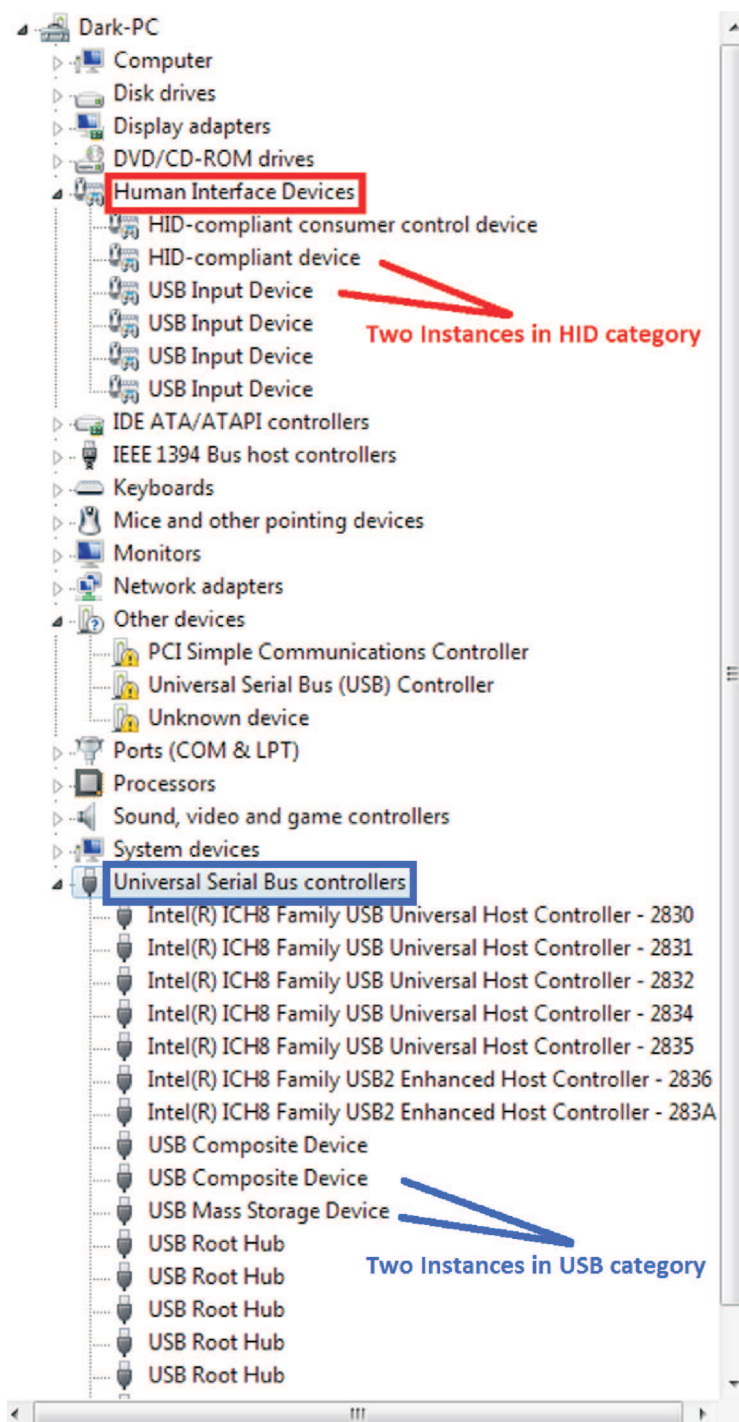

Figure 2-6. TUSB9260/TUSB9261 Instances With FW Containing HID Interface
2. Previously burned FW in the SPI Flash containing TI's predetermined HID instances and functions (see Figure 2-6).